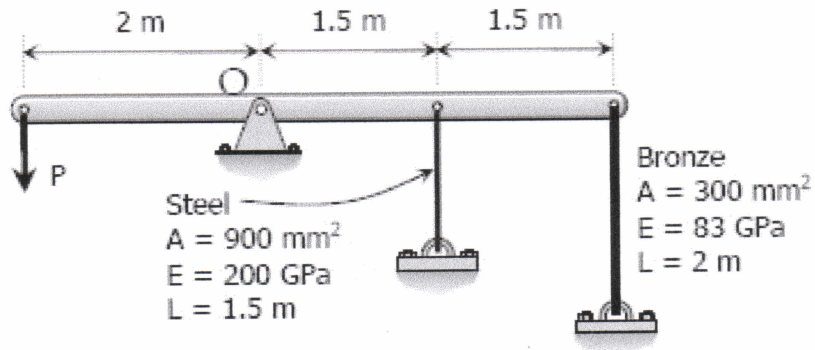

Figure Q5
- Q5.** As shown in **Figure Q5**, a rigid bar with negligible mass is pinned at O and attached to two vertical rods. Assuming that the rods were initially stress-free, what maximum load P can be applied without exceeding stresses of 150 MPa in the steel rod and 70 MPa in the bronze rod. (20 marks)